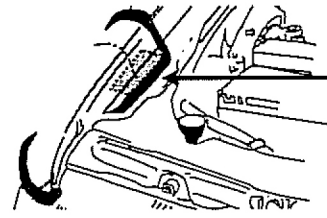

figure 9
- 2.6 Fender corner and engine compartment mounting tabs usually insert (in a downward and slightly outboard direction) into an opening in the engine compartment at or just behind the forward point of the fender as shown in figure 9.